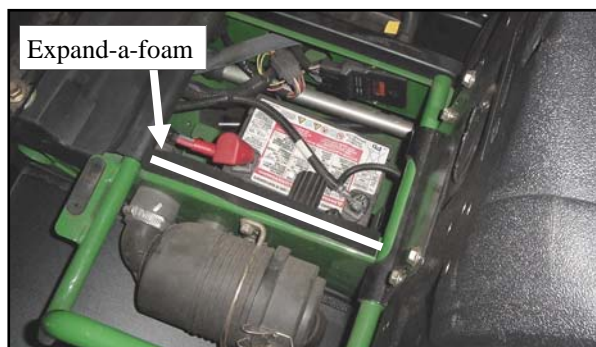

Fig. 9.3 (view under passenger seat)
9.3 Install the 11" piece of Expand-a-foam along the edge at the top of the battery compartment under the passenger seat per fig. 9.3. Be sure the area is clean, dry, and at room temperature before adhering the foam.